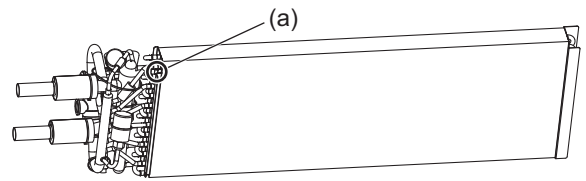
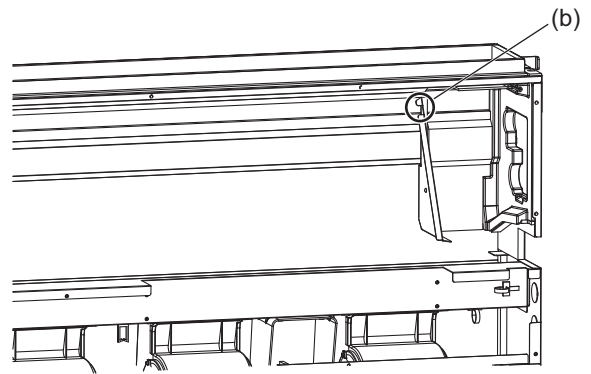

Fig.20
Fig.21
- In order to attach and fix the heat exchanger, insert the hook (a) on the heat exchanger (Fig. 20) to (b) (Fig. 21).